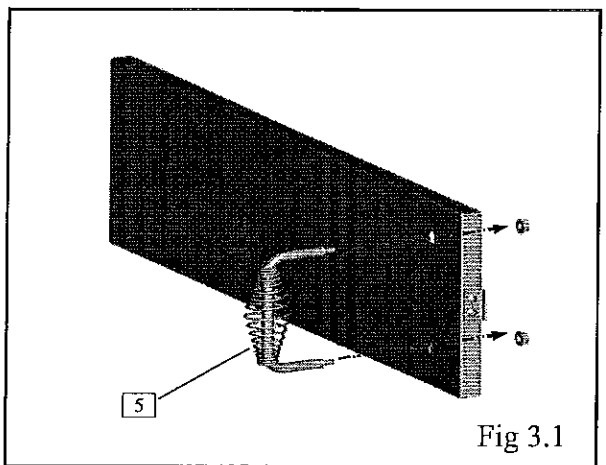

Fig 3.1
Procedure: Attach the small spring handle to the lower door with (2) 1/4-20 flange nuts. Fig3.1